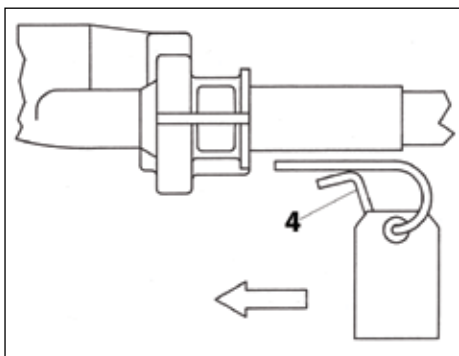

Figure 3.
STEP 3. Replace pin as shown in Figure 3, making sure that it is fully seated. If pin cannot be inserted, the cable is not fully seated in the helm. Push on cable to ensure that it is fully home. **DO NOT REMOVE TAG FROM PIN.**
STEP 4. Replace pins as shown in Figure 3, making sure that they are fully seated. If one pin cannot be inserted, that cable is not fully seated in the helm. Push on cable to ensure that it is fully home. **DO NOT REMOVE TAGS FROM PINS.**